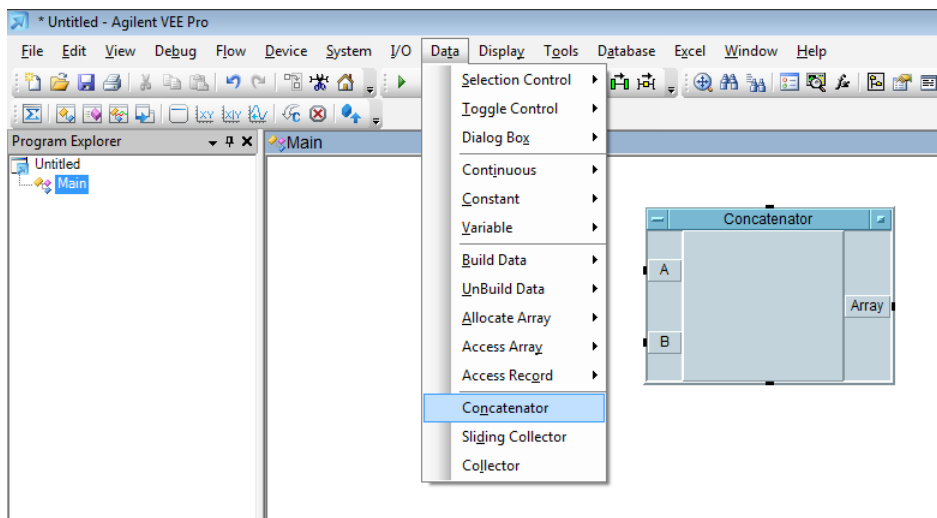

Fig. 33. Adding a Concatenator object
- Now, we will concatenate the data in Text and Alloc Real64 objects. Select **Menu Bar → Data → Concatenator** as shown in Fig. 33.